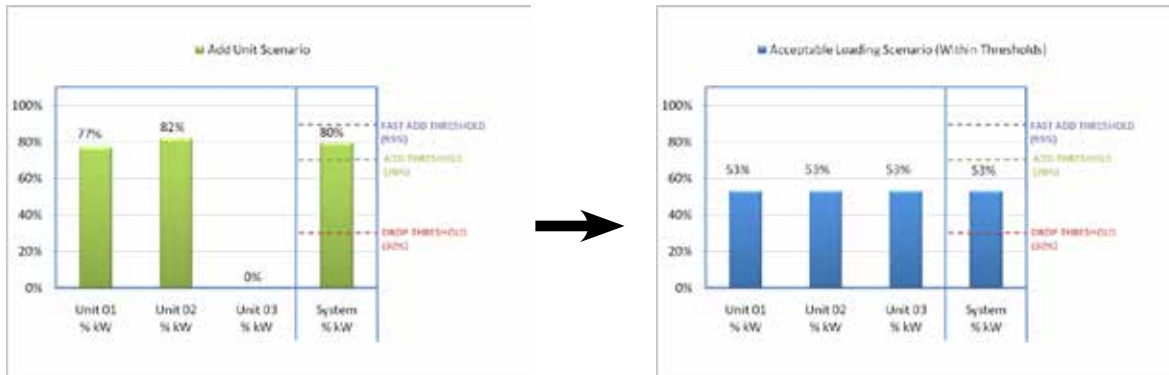

Figure 37.19– LSLD Add Unit Scenario Example
- The LSLD system % kW rises above the *LSLD Add Unit Percentage Threshold* (setpoint) for the corresponding time delay [(*LSLD Add Unit Delay Time* (setpoint) (Figure 37.19)]